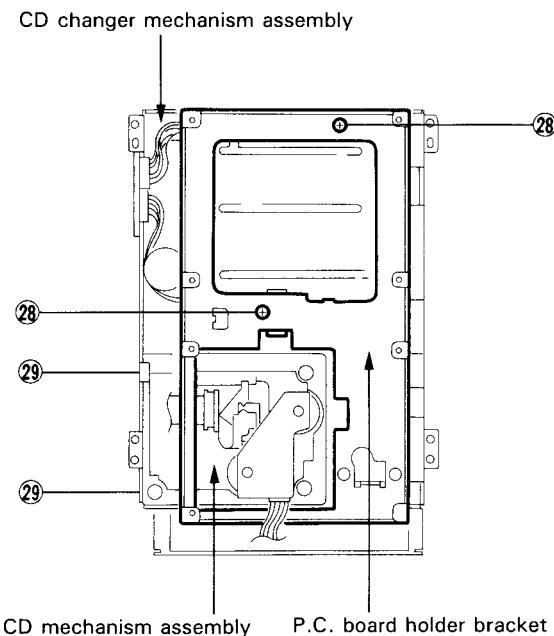

Fig. 7-26
(Refer to Fig. 7-26)**
7. From the CD changer mechanism assembly, remove the two screws ②8 retaining the P.C. board holder bracket (Refer to Fig. 7-26).
8. From the CD changer mechanism assembly, remove the two screws ②9 retaining the CD mechanism (Refer to Fig. 7-26 and 7-27).